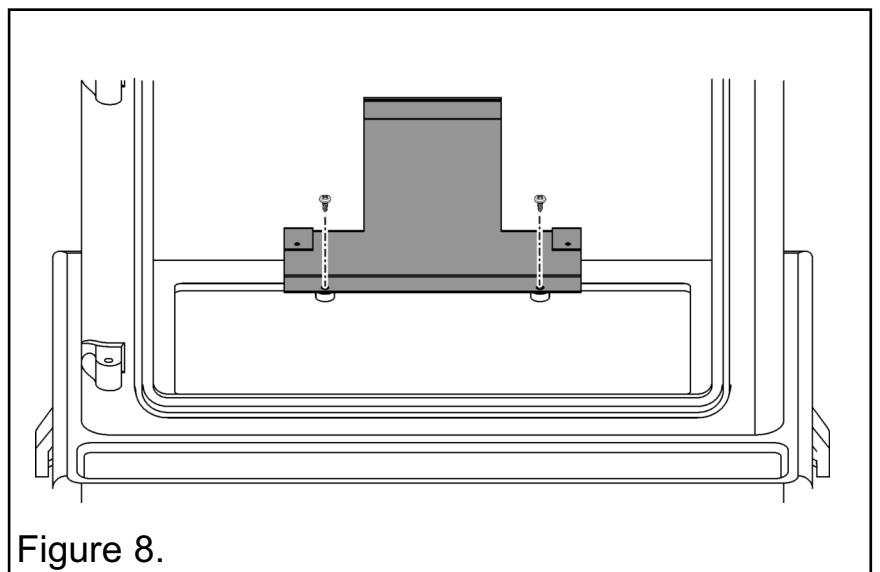

Figure 8.
3. The rear leg at the back of the stove base has been secured using two No.4 x 10mm screws (See figure 8).